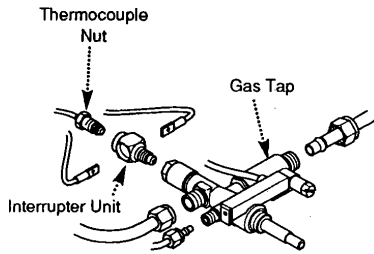

Fig. 46
2. Undo the thermocouple nut from the interrupter unit and pull off the two leads (Fig. 46).
3. Undo the pilot feed nut and the gas inlet and outlet nuts from the tap assembly (Fig. 46).
5. Remove the gas tap (Fig. 46).
6. Remove the interrupter unit from the gas tap (Fig. 46).